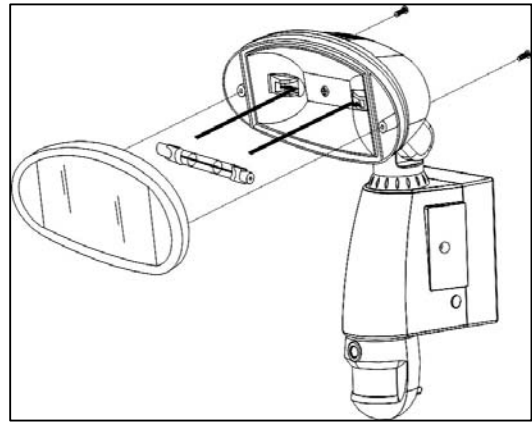

Fig.5
1. Install/replace the halogen lamp (see fig. 5)